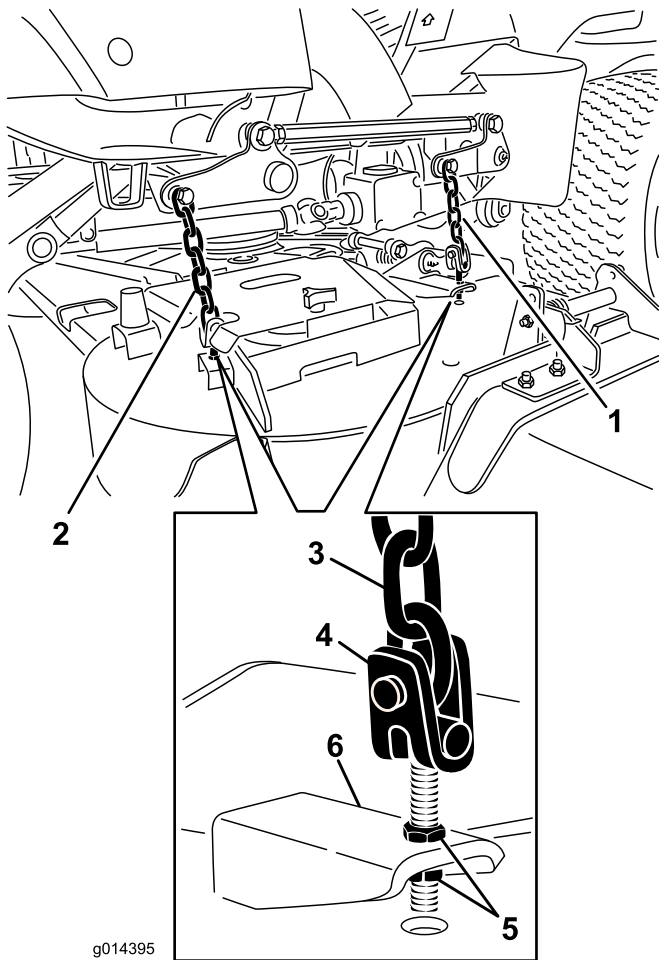

Figure 70
- Adjust the jam nuts securing the deck yokes/chains to the mower deck until the mower deck is level (Figure 70).
7. Adjust the jam nuts securing the rear deck yokes/chains to raise the rear of the deck so that the blade pitch is set to 8 mm (5/16 inch) (Figure 70).